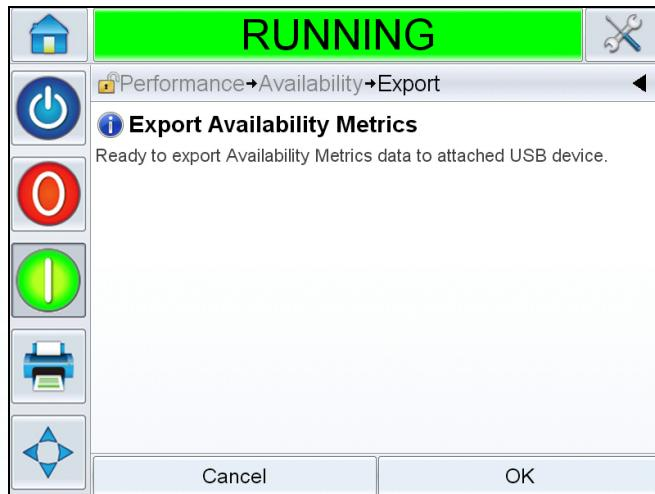

Figure E-9: Export Availability Metrics Confirmation
- c. Confirmation page will be displayed (see Figure E-9).